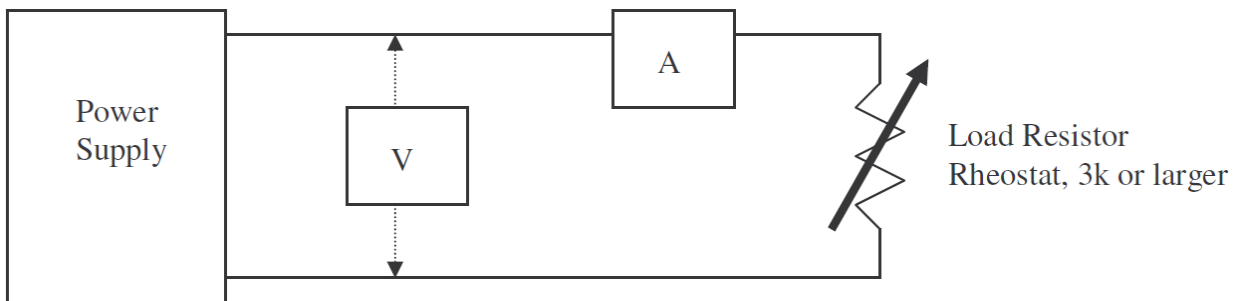

Figure 3-1 Circuit diagram for LED display
- b. Build the circuit as seen in Figure 3-1